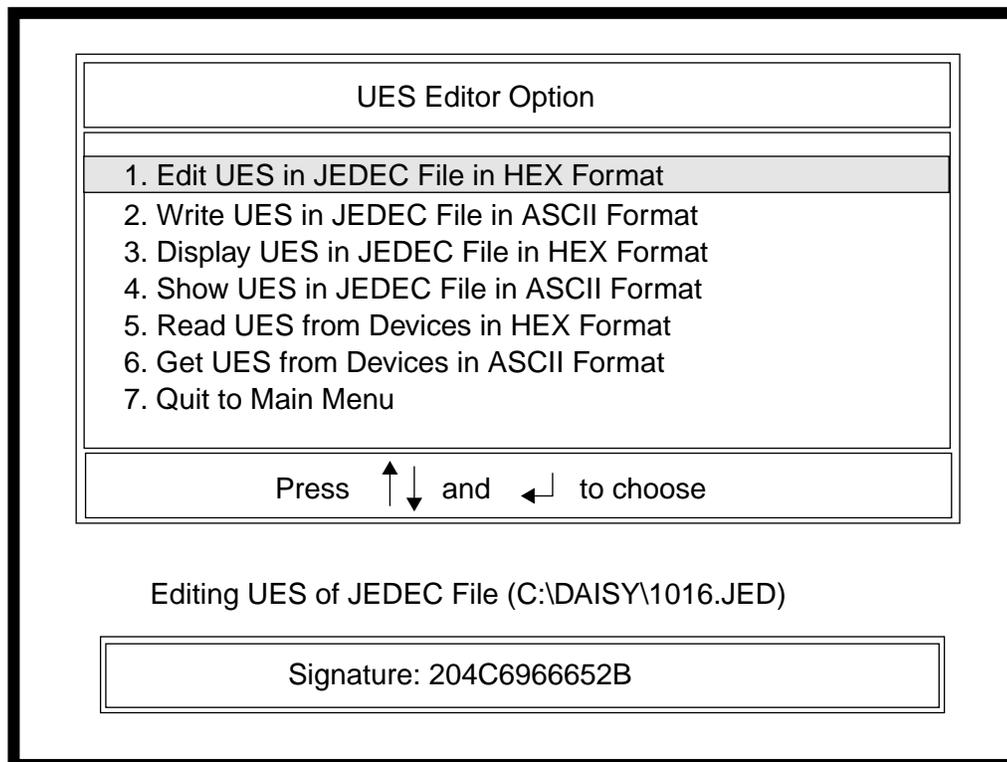

Figure 3-50. Editing a UES (Hex Format)
2. Type in the name of the JEDEC file to edit. If you want to edit a .jed file from another drive or directory besides your current working directory, type the full path in the box. If you cannot recall the name of your file, press **Return** and the .jed files available in your default (working) directory appear. Use the arrow keys to highlight a .jed file from the list box on the right. Press **Return** and Figure 3-50 appears.